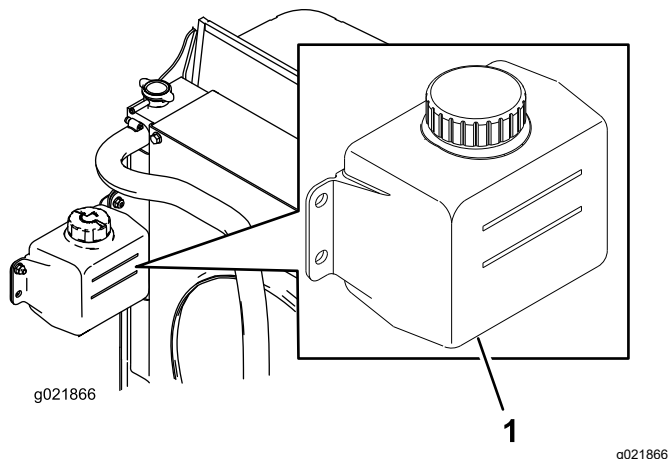

Figure 63
1. Check the level of coolant in the expansion tank (Figure 63).